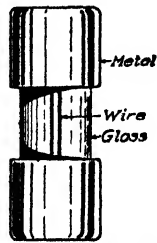

Fig. 211. Typical Fuse
**Fuses.** The lighting circuits of many cars are provided with fuses, designed to protect the battery. These fuses are usually of the enclosed type, consisting of a glass tube with brass caps at each end to which the fusible wire is connected, as shown in Fig. 211. Usually when a fuse "blows", due to excessive current caused by a ground or "short", the wire melts entirely and this will be visible. But at times it will simply melt at the soldered connection and not show any fault. In beginning a test it is well to go over the fuses first, holding one of the test points of the lamp circuit on one end of the fuse and touching the opposite end of the fuse with the second test point. Failure of the lamp to light will indicate the defective fuse. On systems employing a circuit breaker as shown in the wiring diagram, Fig. 208, no fuses are necessary as the circuit breaker serves the same purpose and also gives an audible signal of trouble by its buzzing. Upon finding an open circuit where one is supposed to exist as shown on the wiring diagram, it is always well to verify this by again testing the trouble lamp itself before beginning to tear anything out. The rough handling to which such a lamp is subjected frequently causes the filament to break.